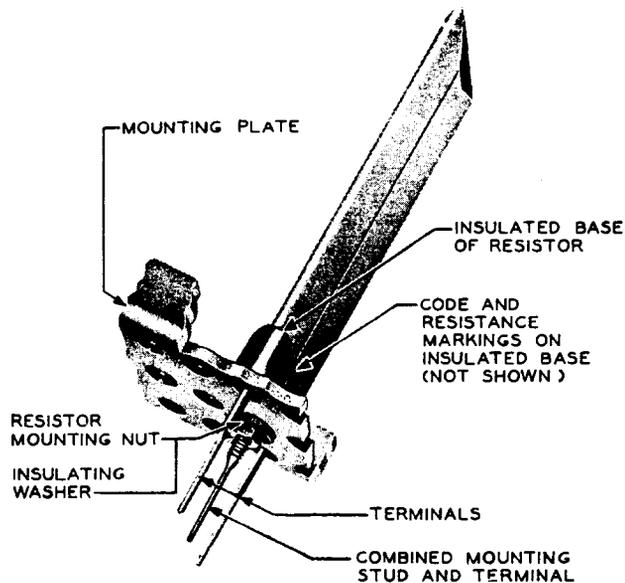

Fig. 1 - Mounting of 18- and 19-type Single Stud Resistors (19-type Resistor Shown)
3.03 *Mounting Resistor: Fig. 1*— If the resistor is to be mounted vertically, it should be positioned on the mounting plate with the code and resistance markings at the left as viewed from the apparatus side of the mounting plate. If the resistor is to be mounted horizontally, the markings should be at the top. Insert the resistor mounting stud and terminals through the proper holes in the mounting plate. From the wiring side of the mounting plate, hold one of the resistor terminals and position the resistor so that the projections on the insulated base are fully seated in the mounting plate holes. Place an insulating washer on the mounting stud and securely tighten the nut using the wrench portion of the No. 48 combination wrench and screwdriver.